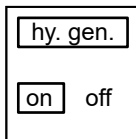

Fig. 67: Hydrogeneration display view
- Hydrogeneration must be activated under "**Fig. 67: Hydrogeneration display view**".